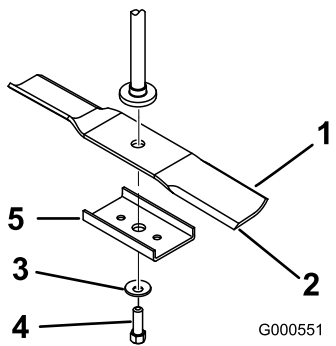
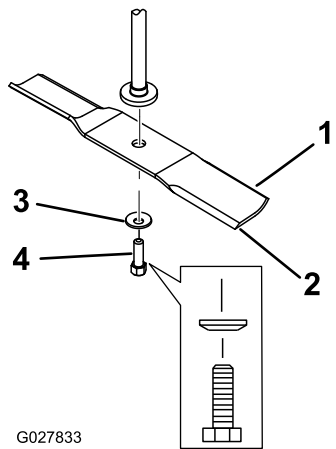

Figure 52
Figure 53
2. Remove the blade stiffener (32-inch decks only), blade bolt, the curved washer, and the blade from the spindle shaft (Figure 52 and Figure 53).
- Install the blade onto the spindle shaft (Figure 53).
- Install the blade stiffener (32-inch decks only), the curved washer (cupped side toward the blade), and the blade bolt (Figure 53).